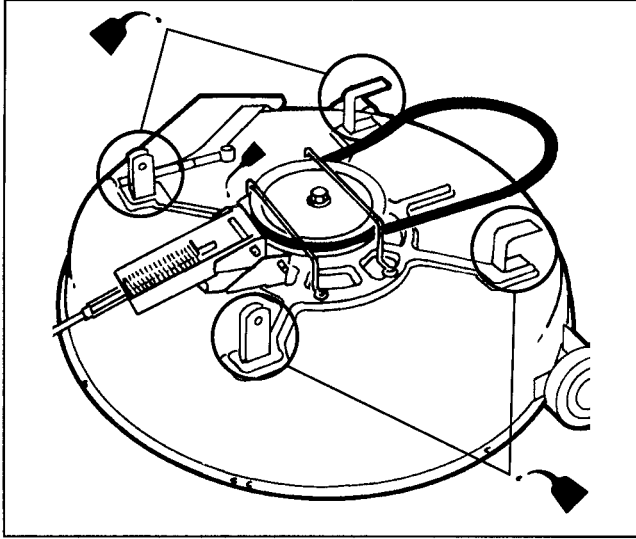

Figure 15
7. Lubricate pivot points in the steering, drive, brake, clutch, and deck engagement linkage with light oil (Fig. 14). Also lubricate mower housing (Fig. 15). Wipe up any excess oil.